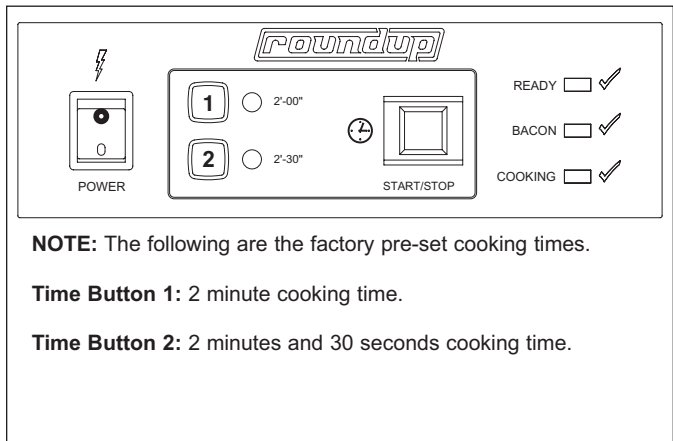

Figure 3. Time Selector Switch
2. Place Egg Ring into Egg Rack (Figure 3).